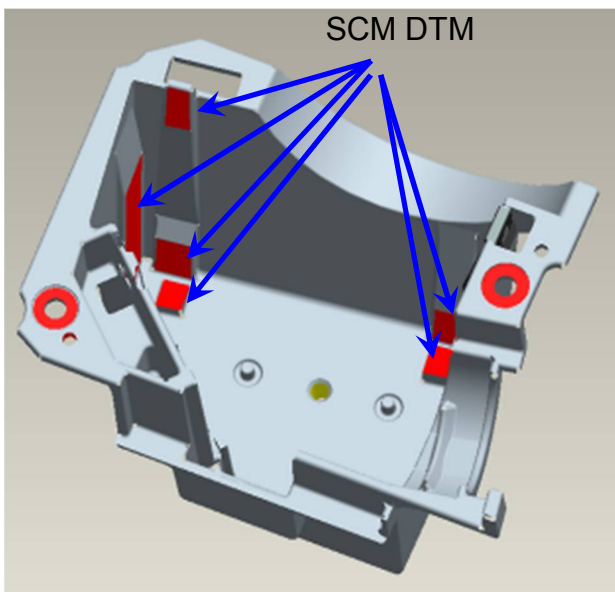
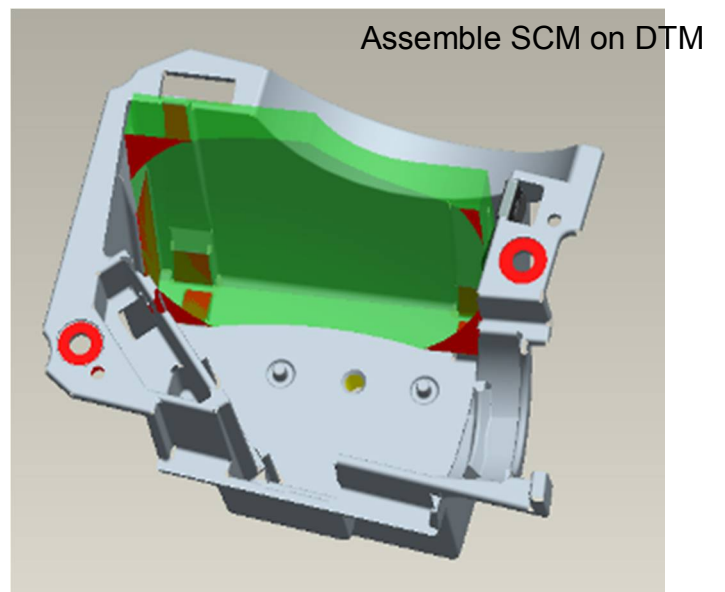

Fig. 2-3
Fig. 2-4
- II. Place SCM on SUB HSG SCM DTM and makes SCM touching DTM truly. (Fig. 2-3 & Fig. 2-4)